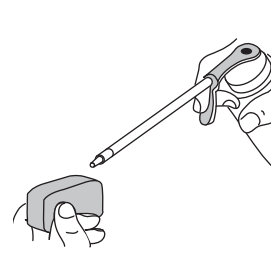

Fig. 23
- Apply enough clean SAE 30 motor oil to lightly coat the filter (Fig. 23).